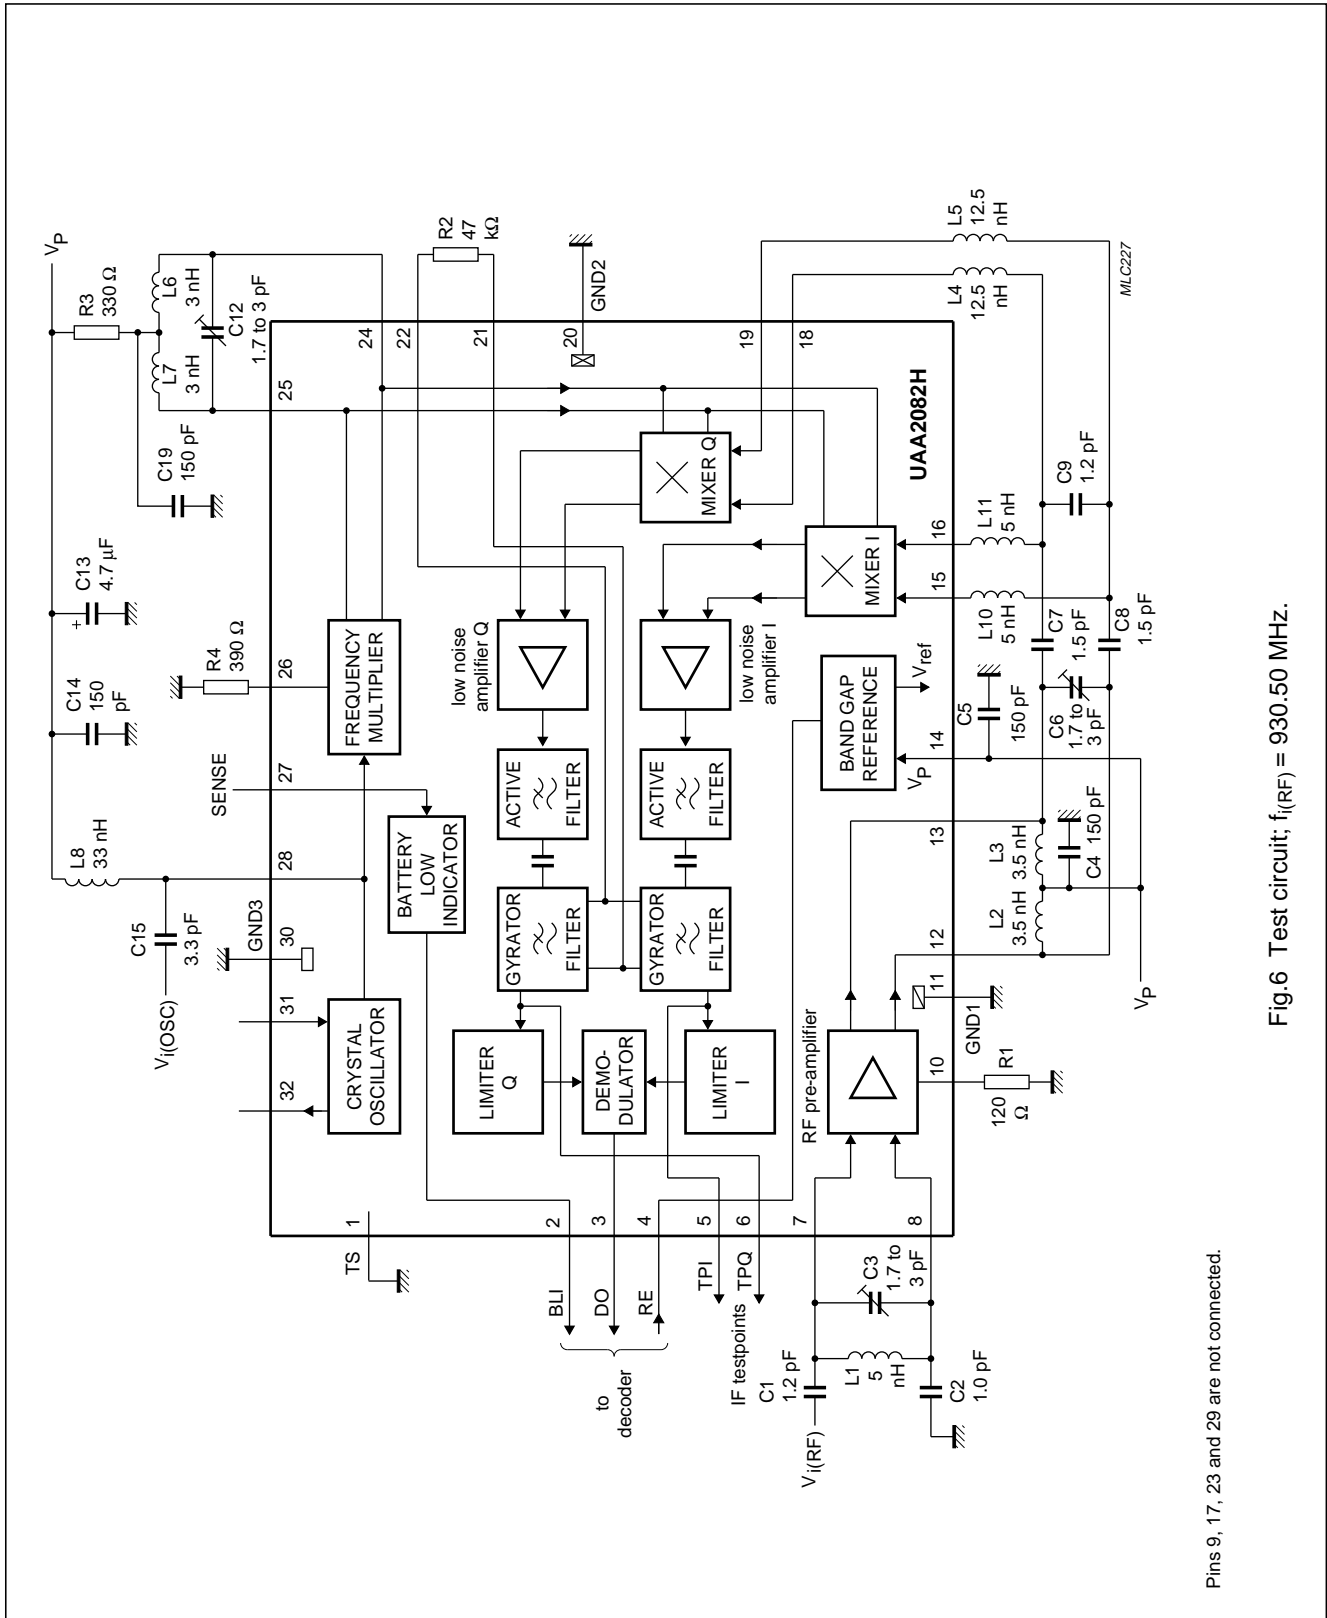

Fig.6 Test circuit;  $f_{i(RF)} = 930.50$  MHz.
**Table 3** Tolerances of components shown in Fig.6 (note 1)